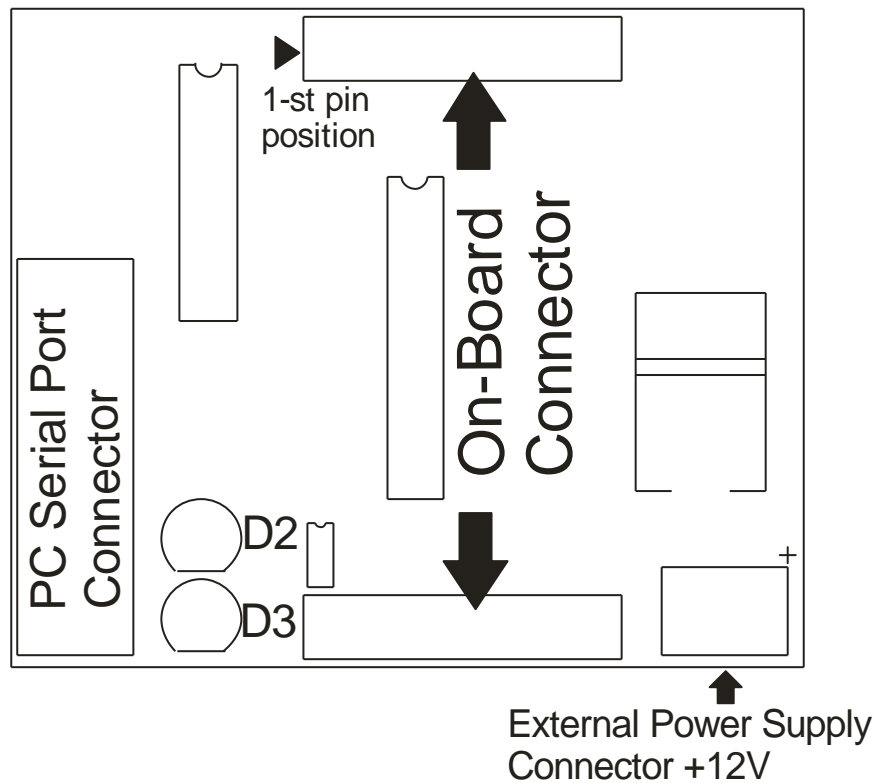

Figure 1. The ST7282-Programmer board layout
The ST7282-Programmer includes two LED's (Figure 1).
- Insert adapter with soldered MCU into On-Board connector (see Figure 1).
- **Problem:** LED D3 (see Figure 1) Dark.